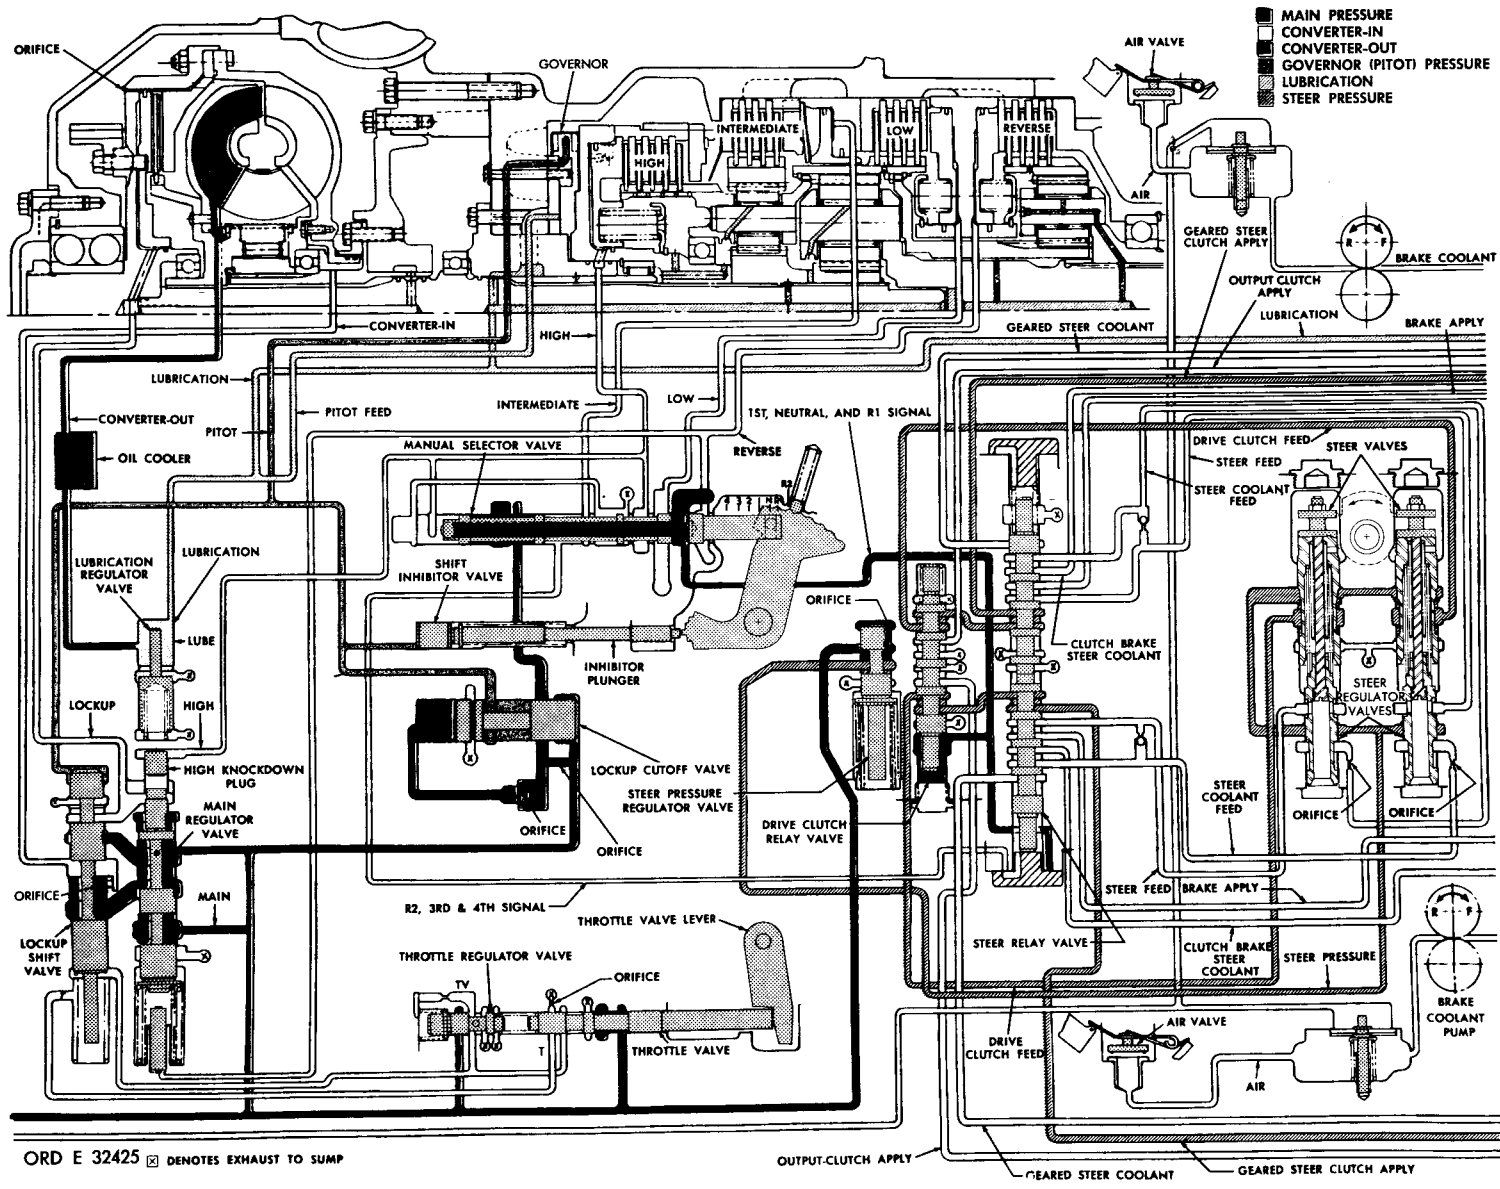

Figure 6. Hydraulic system, neutral range — schematic view
(figs. 6 through 19, and fig. 372-fold-out 1)
(1) The hydraulic system, because of its importance to the operation of the power train, should be carefully studied and understood. There are 14 partial hydraulic schematics in color (figs. 6 through 19) and a fold-out hydraulic schematic (fig. 372). The colored schematics show positions of valves and moving components, and the various hydraulic circuits as indicated by the captions. The fold-out schematic, in black and white, shows the entire hydraulic system.
(2) Hydraulic schematic views (figs. 6 through 18) parallel the torque path schematic views (figs. 22 through 34) in Section III of this chapter. The hydraulic schematic views illustrate what happens hydraulically, while the torque path schematic views illustrate what happens mechanically.
(1) In the schematic views, a particular color or color variation in figs. 6 through 18, is continued in the system until it passes through a regulator or an orifice which changes the pressure of the oil.
(2) To avoid needless repetition, references are made to initial explanations. To link the hydraulic action with the corresponding mechanical action, references are made to the paragraphs explaining the mechanical actions.
## 30. HYDRAULIC SYSTEM FUNCTION - NEUTRAL RANGE (fig. 6)
a. In neutral range, main pressure is supplied only by the input pressure pump (pump not shown in fig. 6; see fig. 372, fold-out 1). This oil is directed to four points at all times. These points are: the main-pressure regulator valve, the lockup cutoff valve, the throttle and throttle regulator valves, and the steer pressure regulator valve. This part of the hydraulic circuit always is charged when the power train is operating.
a. Hydraulic system conditions in reverse 1 gear are the same as described for neutral in par. 30, above, and illustrated in fig. 6, except that the reverse-range clutch is engaged and the vehicle is moving in reverse.